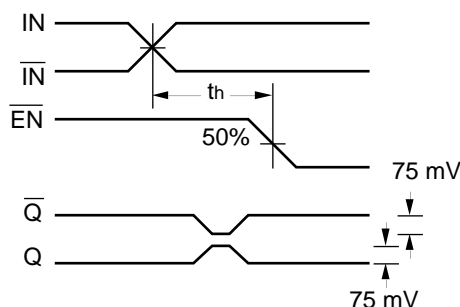

Figure 2. Hold Time
- The hold time is the minimum time that EN must remain asserted after a negative going IN or a positive going IN to prevent an output response greater than ±75mV to that IN/IN transition (see Figure 2).